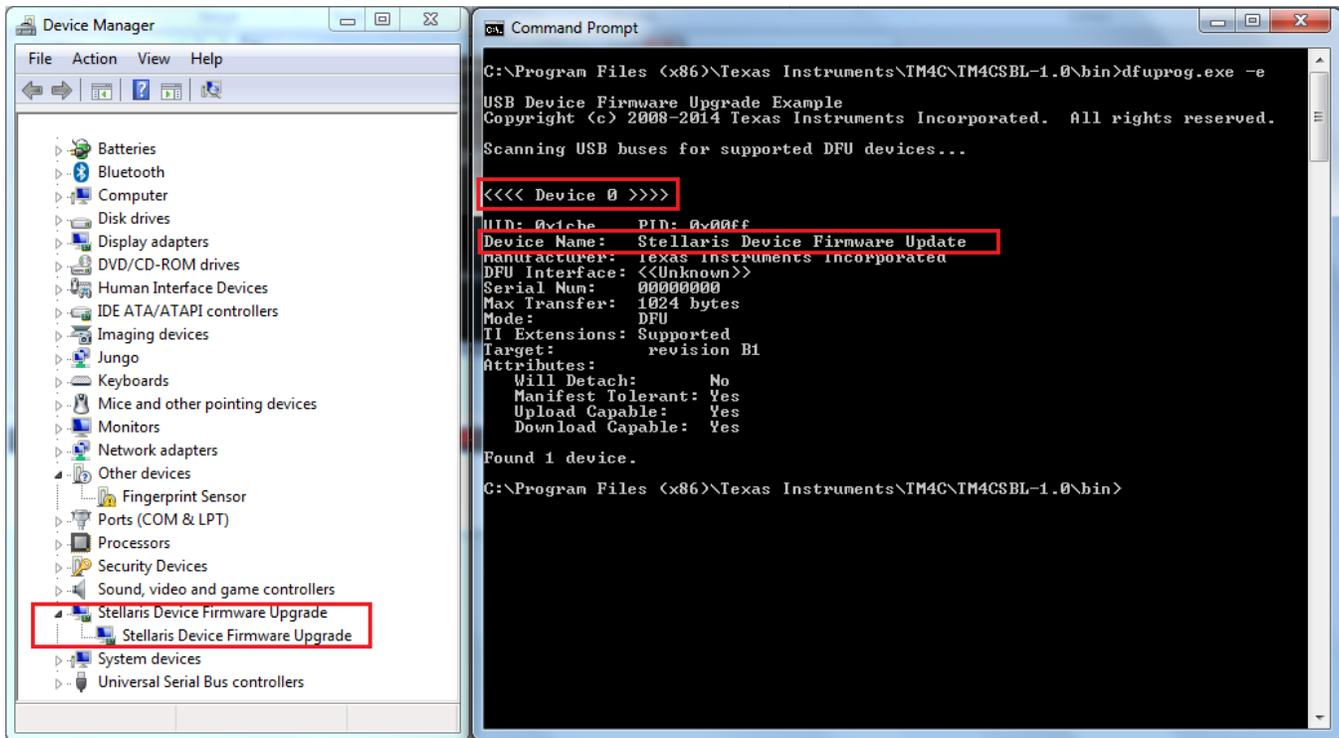

Figure 30. Getting the DFU Device Number
- Open a command window and go to the installation directory folder where the “dfuprog.exe” is kept. Run the command “dfuproge.exe -e” to show all the USB devices connected to PC host as the DFU class device. Since there may be multiple DFU class devices, make a note of the device number of the programmer board, as shown in Figure 30.